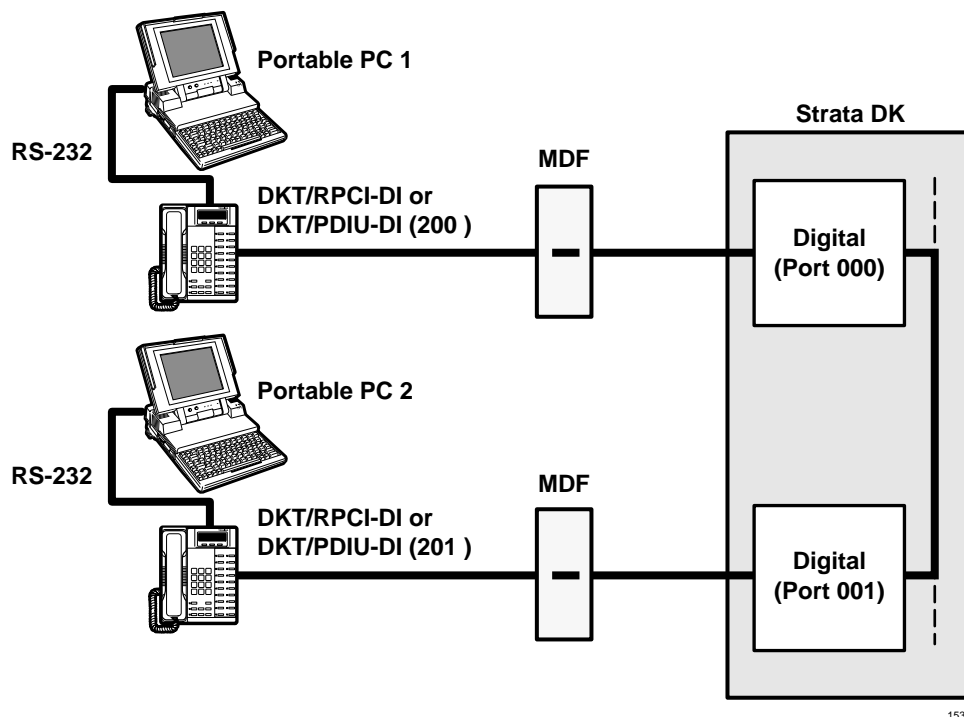

Figure 10-35 DK PC to PC Test Call Using AT Commands
**Note** See Figure 10-35, "DK PC to PC Test Call Using AT Commands" for additional information.
- ◆ Program 39: Ports 000 and 01. **Data Call** (456) and **Data Release** (454) buttons should be provided.